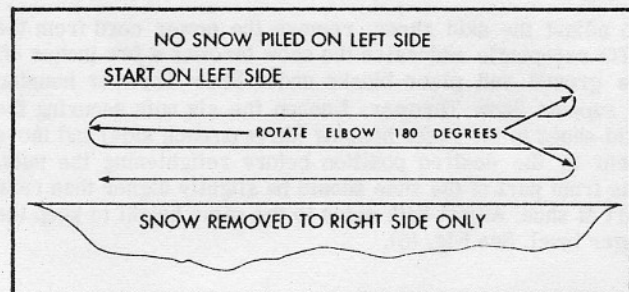

Figure 10
A definite pattern of operation is required to thoroughly clean the snow area. This pattern will avoid a second removal of snow and avoid throwing snow in unwanted places. Where it is possible to throw snow to right and left, as on a long driveway, it is advantageous to start in the middle. Plow from one end to the opposite end throwing snow to both sides without changing direction of the discharge chute. See Figure (9). If snow can only be thrown to one side of the driveway or sidewalk, start at the opposite side. At the end of each pass, rotate the discharge chute 180 degrees for the return pass. At the end of each succeeding pass, rotate chute 180 degrees to maintain direction of throw into the same area. See Figure 10.